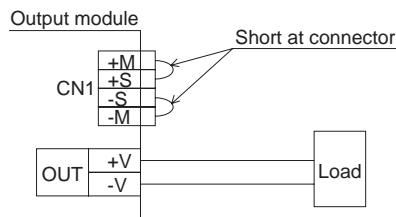

Fig.2.3 When not using remote sensing function
■Remote sensing circuit is built-in each output module. ■Wiring method without using remote sensing is shown in Fig.2.3. When you do not use the remote sensing, connect between +S and +M and between -S and -M with CN1 of each output module. When the power supply is shipped out of a factory, a special harness is mounted on CN1 of the output module.